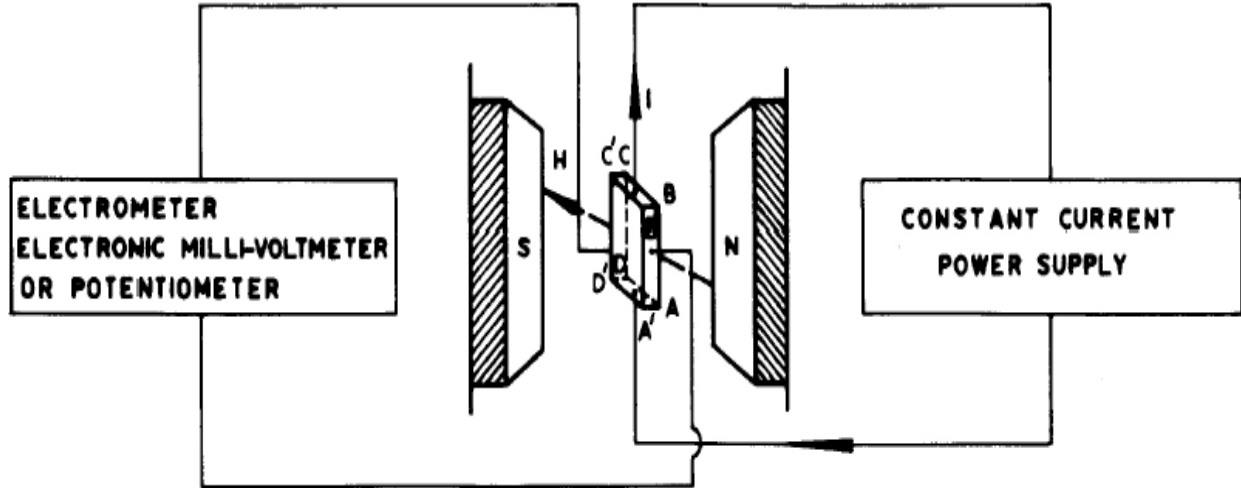

Fig.6.1.Hall apparatus set up
- Connect the widthwise contacts of the hall probe to the terminals marked as ‘voltage’ (i.e. potential difference should be measured along the width) and lengthwise contacts to the terminals marked (i.e. current should be measured along the length) as shown in fig.6.1